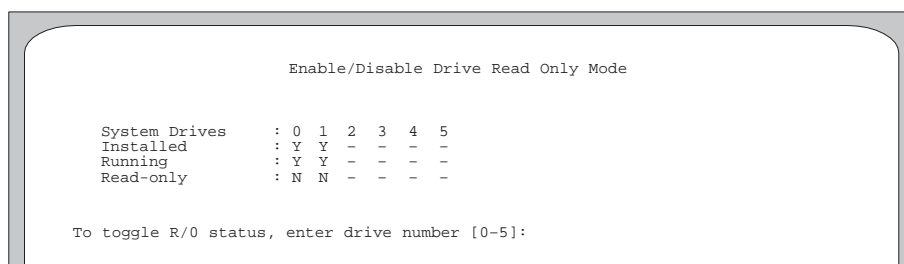

Figure A-22. Example of the Enable/Disable Drive Read Only Mode Screen for a Non-GMR Server.
2. Check the status of all the drives on the Enable/Disable Drive Read Only Mode screen, as shown in the example in Figure A-22. Determine which drives to put in or take out of read-only mode.